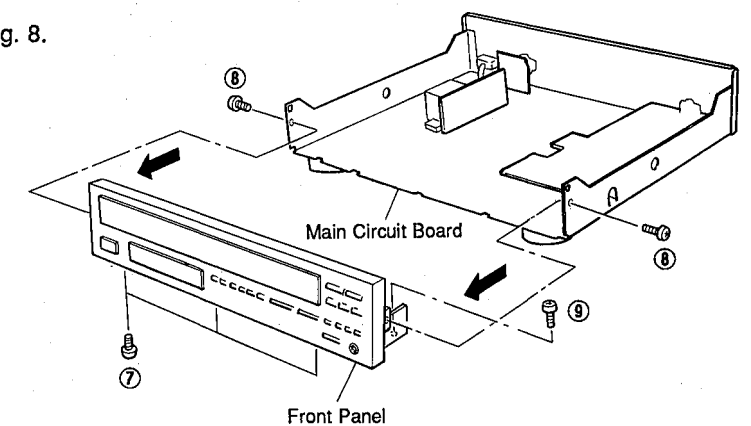

Fig. 8
a. Remove 5 screws, (⑦, ⑧) and also 1 screw (⑨) as shown in Fig. 8.
b. Take off the Front Panel Unit slowly as shown in Fig. 8.